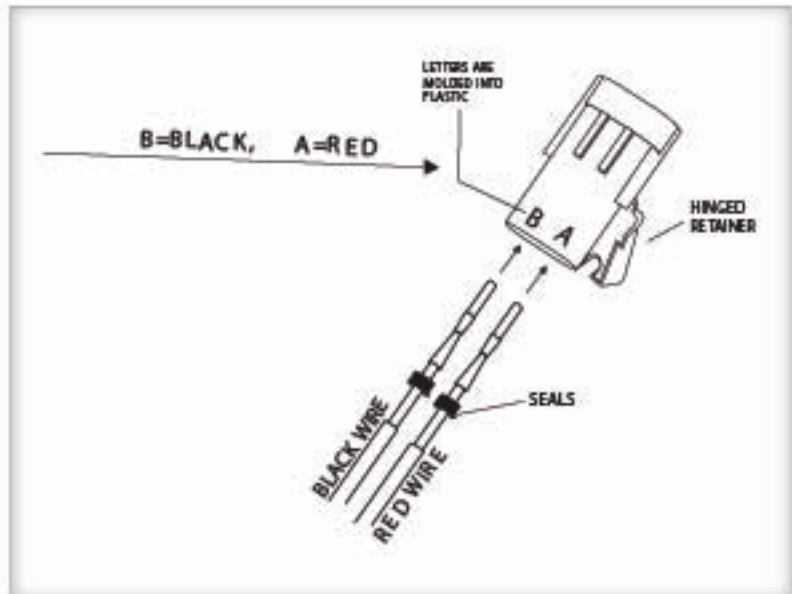

Figure 15-1
- Insert pins as shown. [Figure 15-1]